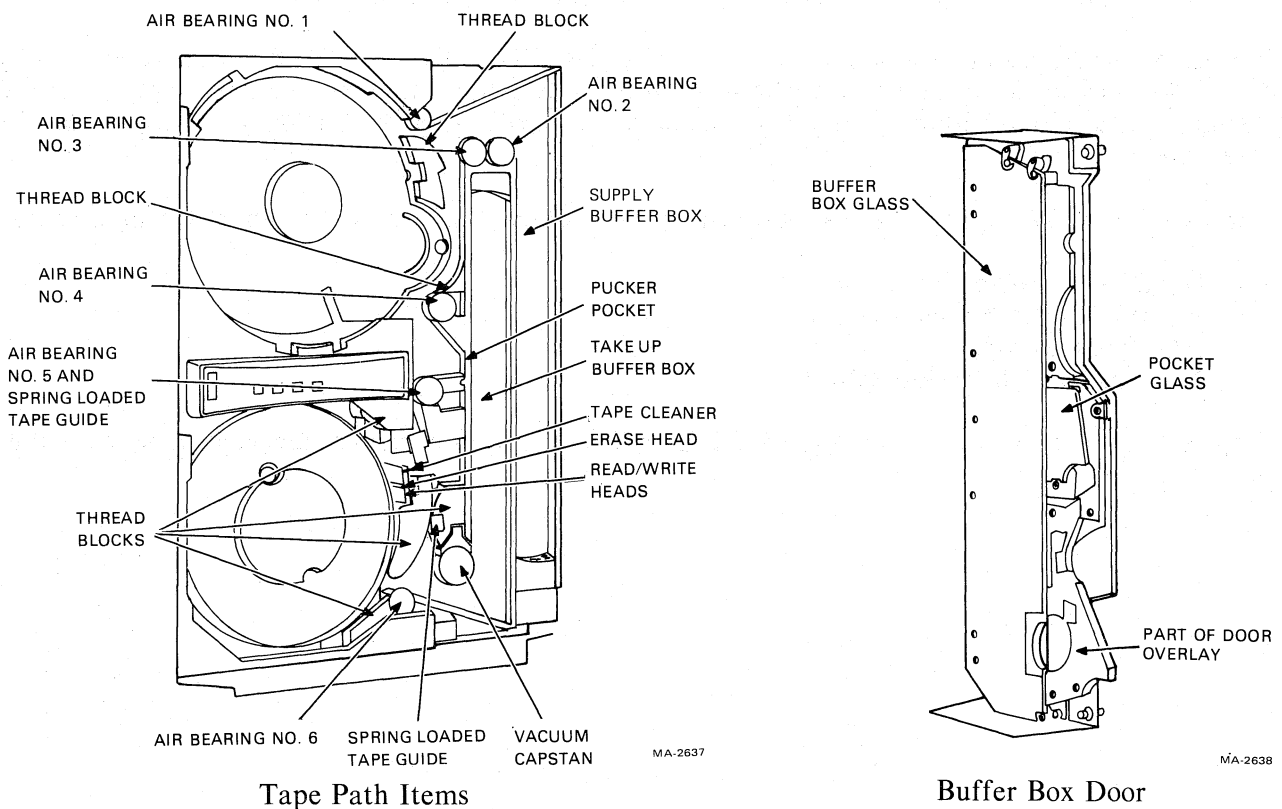

Figure 4-1 Transport Items for Daily Cleaning
2. Clean the following components of the transport using a foam-tipped swab soaked in cleaning fluid (Figure 4-1).